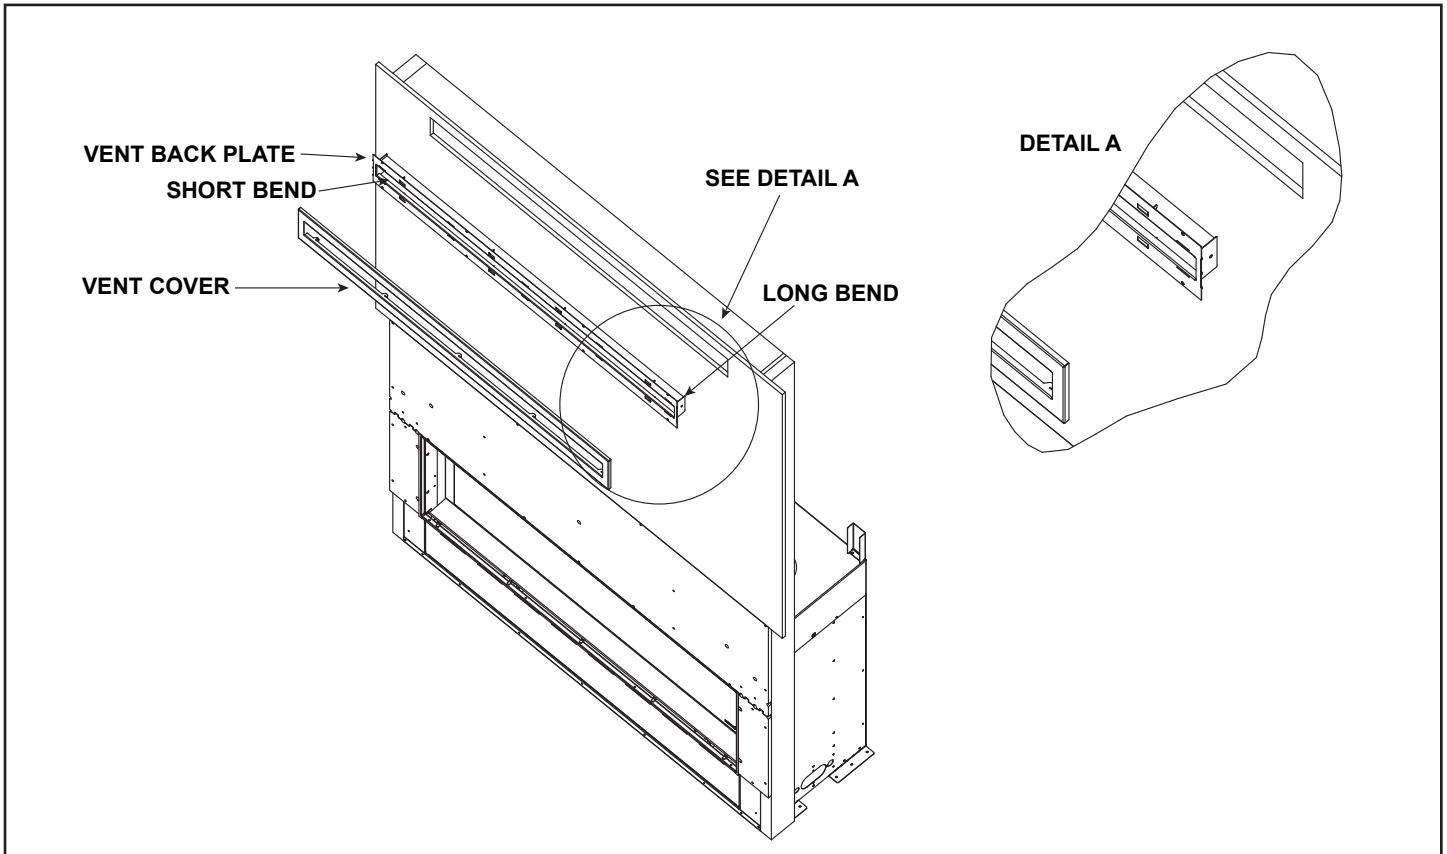
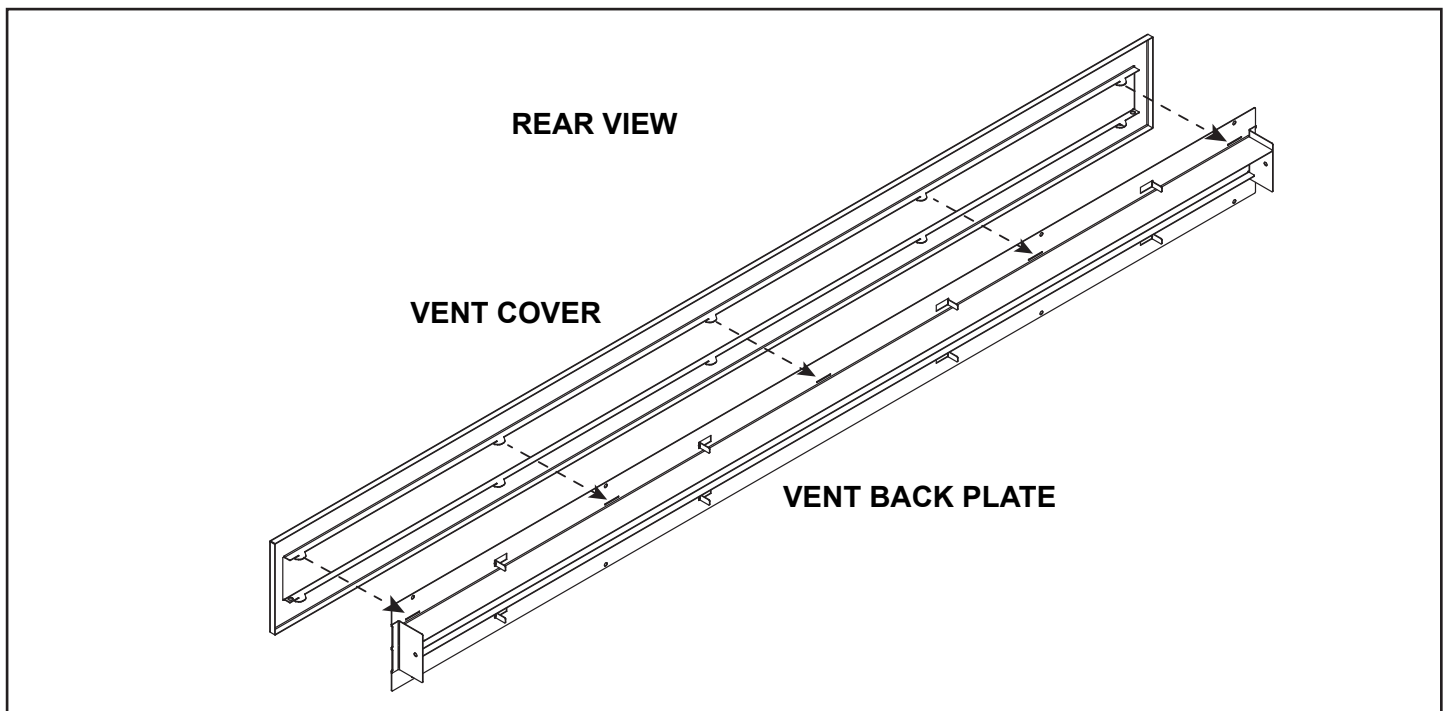

Figure 2 Orientation of Back Plate Bends
Figure 3 Attach Vent Cover to Vent Back Plate - Rear View
3. Attach the vent back plate to the wall using the drywall screws provided. See Figures 2 and 5.
5. Attach the vent cover to the vent back plate by lining up the hooks of the vent cover to the slots on the vent back plate. Slide cover to engage hooks. See Figure 2 (front view) and Figure 3 (rear view).